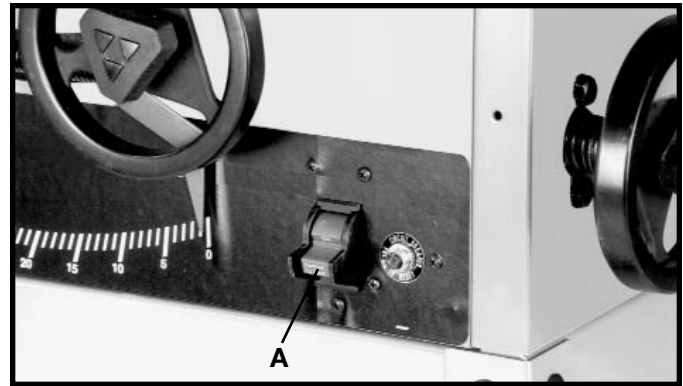

Fig. 33
The switch (A) is located on the front panel of the saw cabinet, as shown in Fig. 33. To turn the saw “ON”, move the switch up to the “ON” position. To turn the saw “OFF”, move the switch down to the “OFF” position.